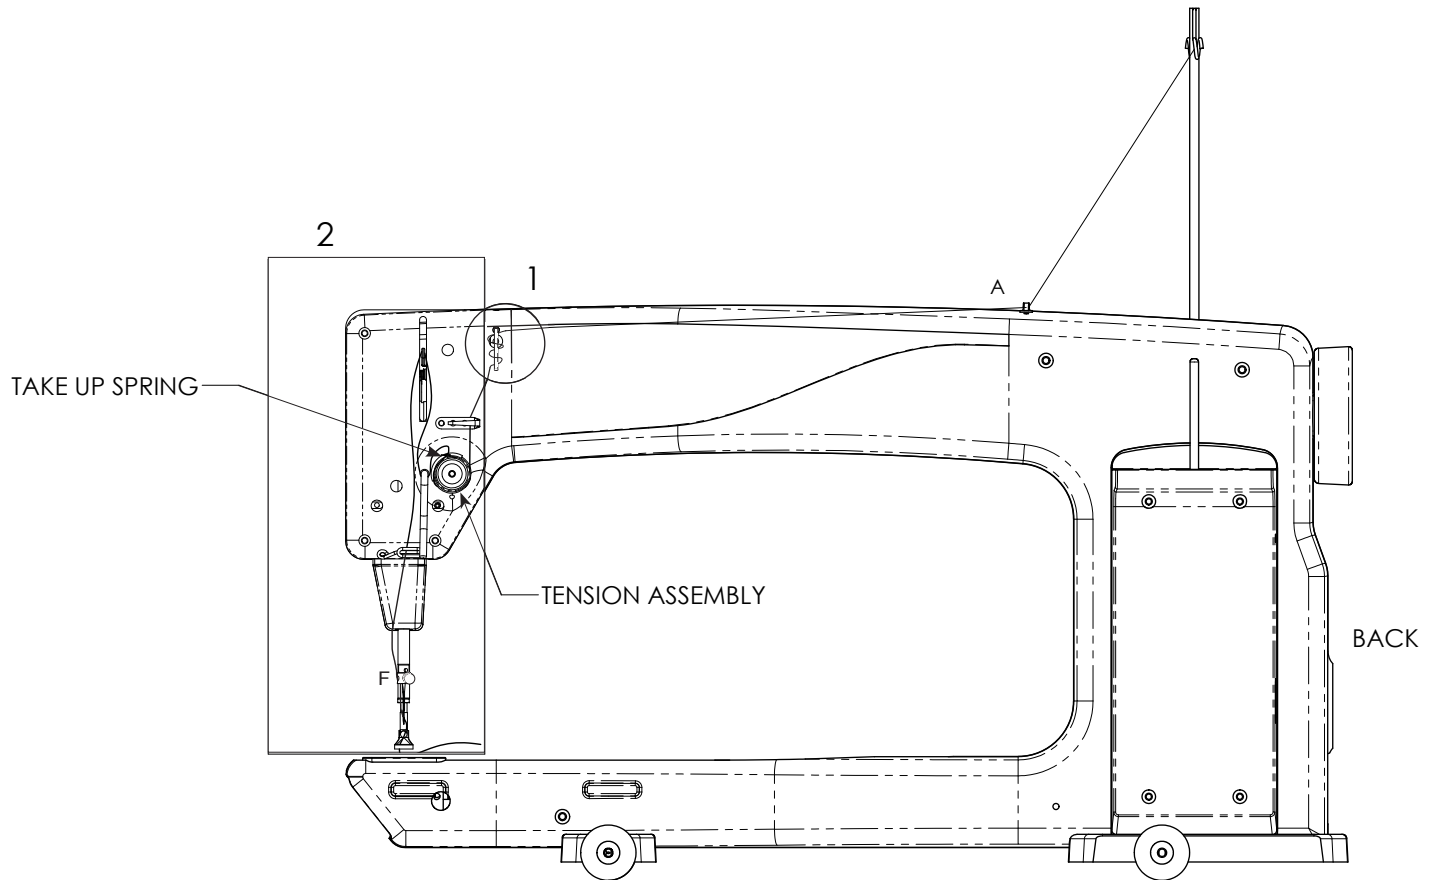

Figure 13
1. Place a cone or spool of thread on the spool pin. Pass the thread through the thread-mast eyelet from back to front, continuing to thread guide A. (Figure 13)